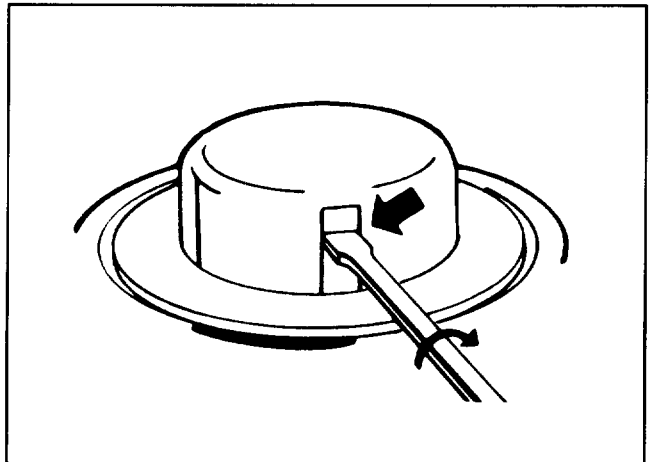

Figure 21
CLEANING CUTTER HEAD (Fig. 21 & 22)
2. Insert medium blade screwdriver in one of two windows slots on spool hub and twist screwdriver 1/4 turn (Fig. 21). Spool will snap off.